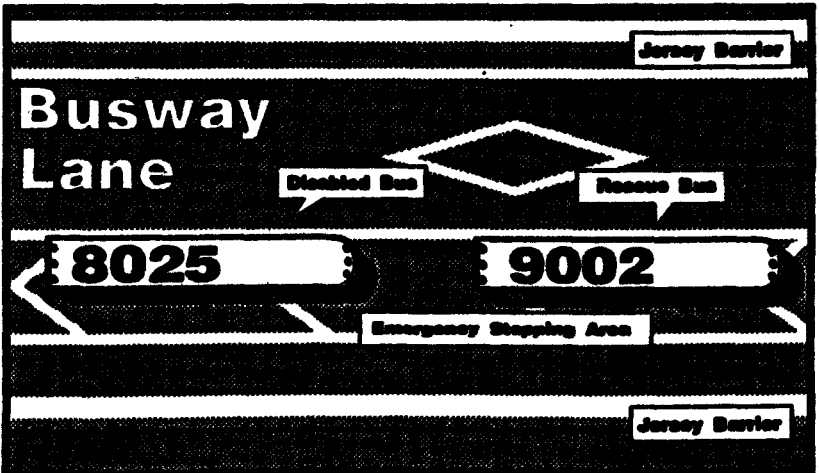

Fig 11-2
For transfer in either direction between the Long Beach Freeway (710) and Alameda Street, the Operator of the rescue bus will pull in front, three (3) feet from and parallel with the jersey divider. (see Fig 11-2)